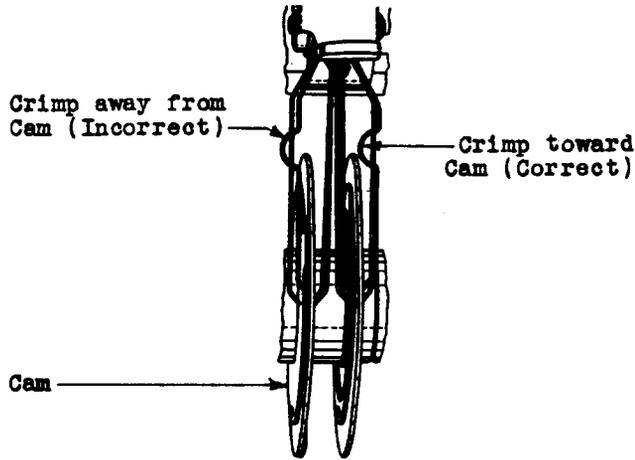
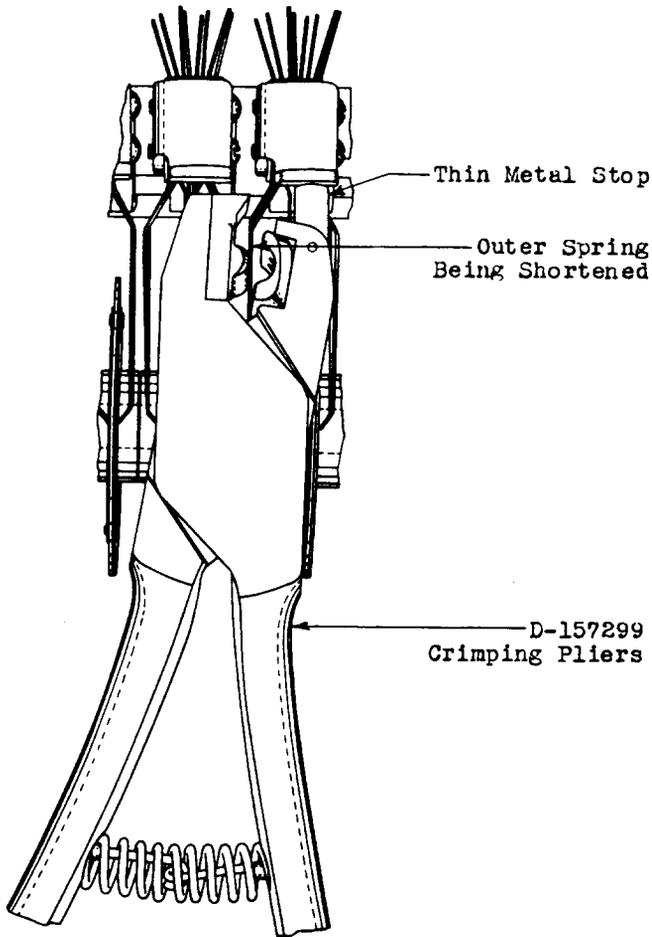
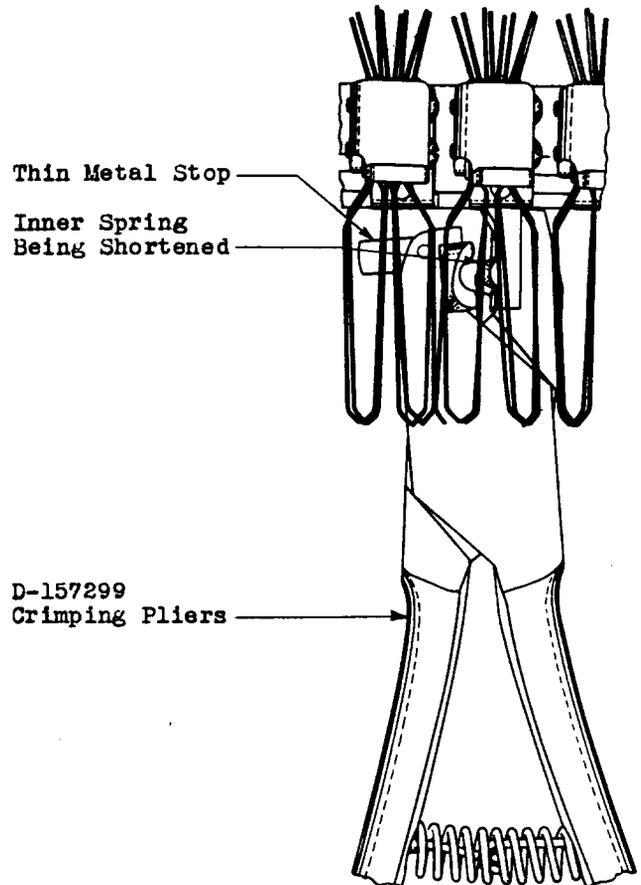

Fig. 1 - Correctly and Incorrectly Crimped Springs
Fig. 2 - Method of Shortening Outer Springs
Fig. 3 - Method of Shortening Inner Springs
3.03 Turn the thin metal stop of the D-157299 crimping pliers so the stop extends in line with the length of the tool. In using the crimping pliers, care must be exercised to place the tool on the spring to be shortened so that the resulting crimp will be toward the cam to avoid the possibility of short circuits between the shortened spring and adjacent springs. (See Fig. 1.) Therefore, in crimping the No. 2 spring hold the pliers so the thin metal stop is on the right hand side of the pliers as shown in Fig. 2; while in crimping the No. 3 spring hold the pliers so the stop is on the left hand side.
3.04 Place the crimping pliers in position for crimping as follows: Place the pliers above the spring to be shortened with the crimping lips directly over the spring. Hold the handles of the pliers slightly higher than the crimping end and, for a No. 2 spring, slightly offset to the left as shown in Fig. 2. (For a No. 3 spring hold the handles slightly offset to the right.) Then press the pliers down firmly into position and allow the handles of the pliers to move down-
3.07 Make the metal stop of the D-157299 crimping pliers ineffective by turning it at right angles to the length of the tool. Care must be exercised to place the tool on the spring to be shortened so that the resulting crimp will be toward the cam so as to avoid the possibility of short circuits between the shortened spring and adjacent springs (see Fig. 1). Therefore, in crimping the No. 1 spring hold the pliers so the thin metal stop is on the right hand side of the pliers, while in crimping the No. 4 spring hold the pliers so the stop is on the left hand side as shown in Fig. 3.
slightly offset to the right as shown in Fig. 3.) Then press the pliers up firmly into position and move the handles of the pliers upward so that the upper side of the pliers rests against the springs.